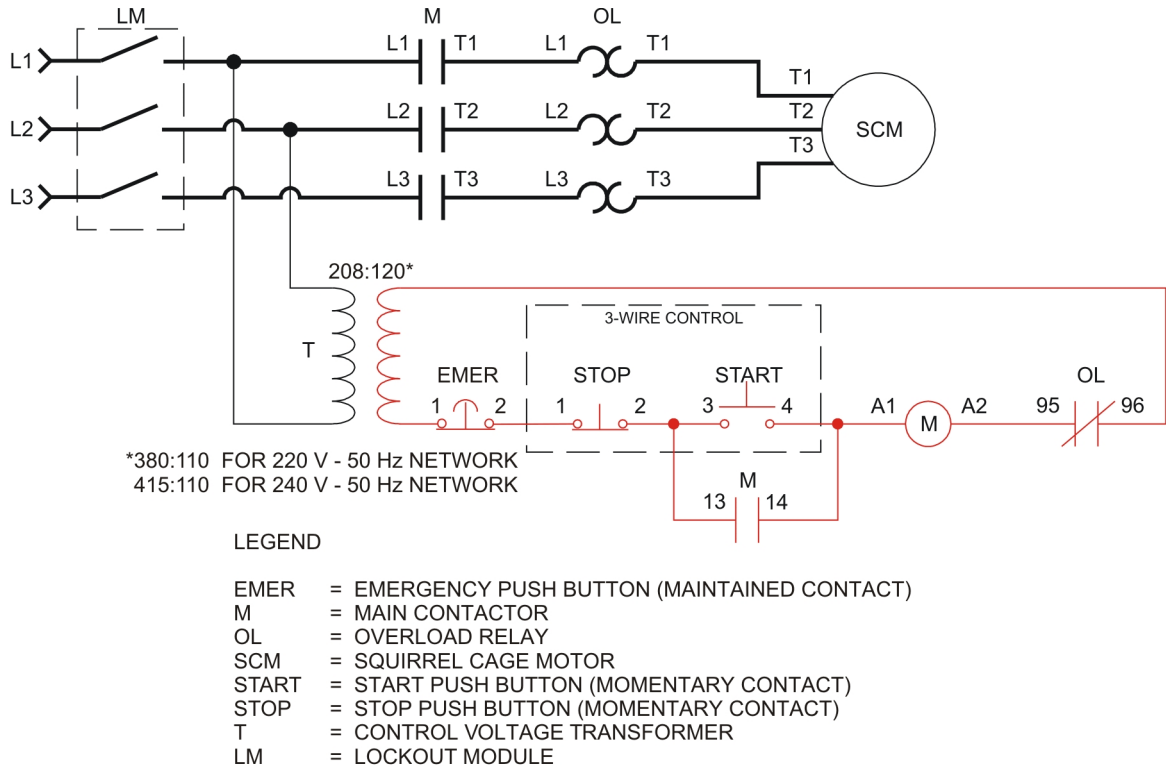

Figure 3-7. Three-wire control circuit.
The circuit of Figure 3-7 is an example of three-wire control. It functions in the following manner:
- 9. Connect the circuit shown in Figure 3-7.